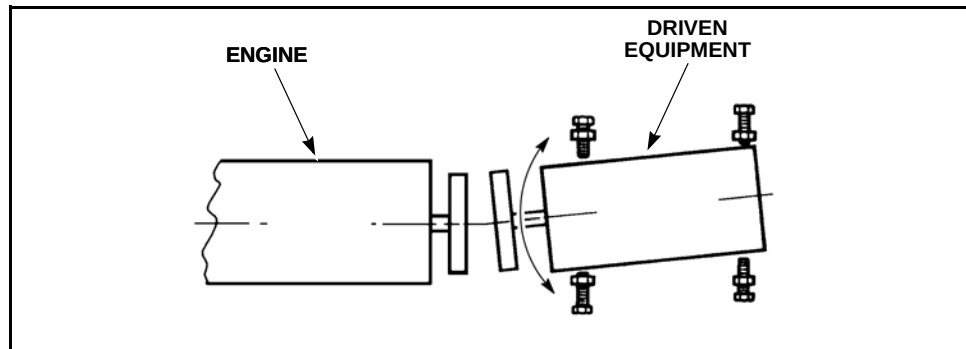

Figure 9-13 Slide Free End
3. After shimming, loosen both mounts on one end and all center mounts. It may also be necessary to loosen one mount on the fixed end but do not loosen both. Slide the free end the amount calculated, then re-torque the bolts (see Figure 9-13).